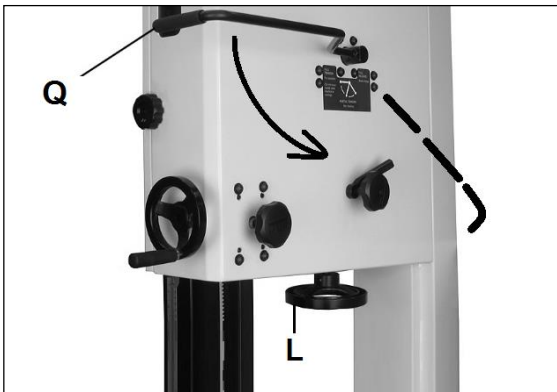

Fig 30
Release the blade tension by operating the quick blade tension lever (Q, Fig 30) and by turning the blade tension hand wheel (L).